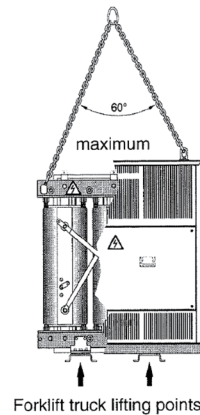

Figure 6.1: Lifting with slings or forklift truck
- Lifting with slings (figure 6.1). For a transformer without an enclosure, lifting is carried out using the 4 lifting lugs. For a transformer with an enclosure, lifting is done using 2 lifting lugs. The slings should not form an angle greater than 60° as seen in the diagram.
- Lifting with a forklift truck (figure 6.1). The lifting capacity of the forklift truck should first be checked. If possible, the forks should be inserted inside the base channels after removing the rollers.
1. When lifting with slings (figure 6.1) or lifting with a forklift truck (figures 6.1 and 6.2), position the lifting forks under the base channels.